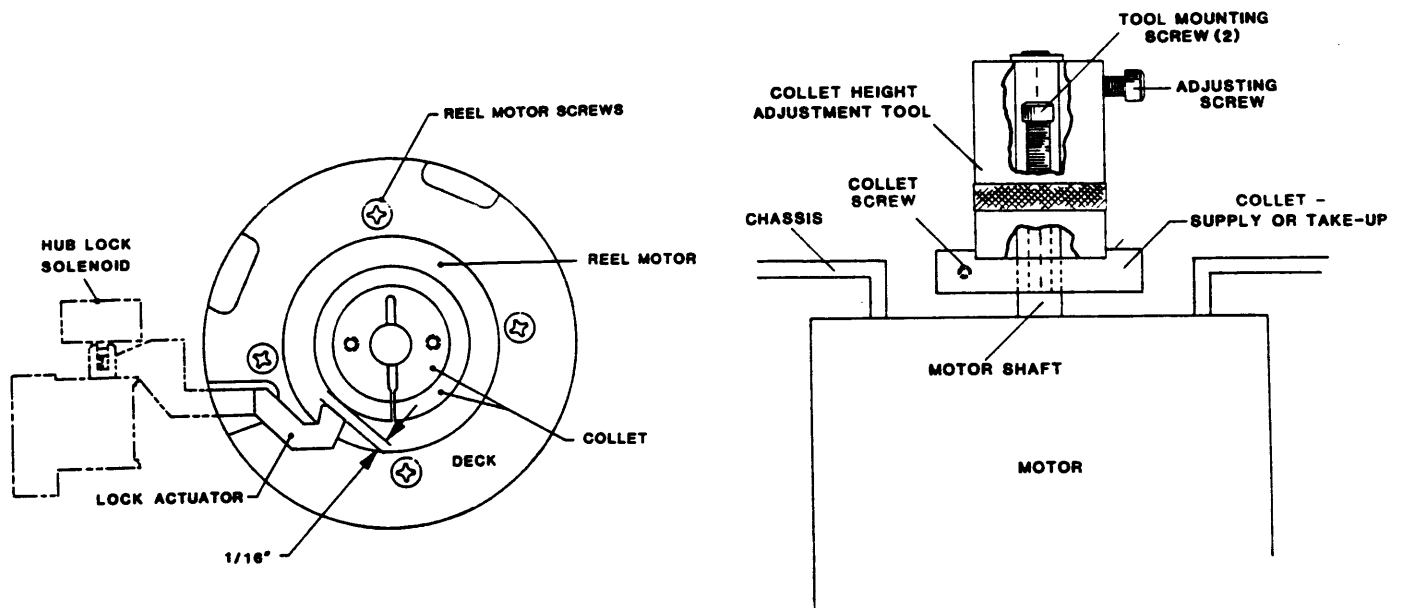

Figure 5-26. Supply Reel Motor Assembly
5.3.31 SUPPLY REEL MOTOR ASSEMBLY (Figure 5-26)
- D. Remove four Phillips Motor Mounting Screws (same as in Figure 5-26) and lower the Reel Motor enough to access the Motor Connector inside the Blower Box.